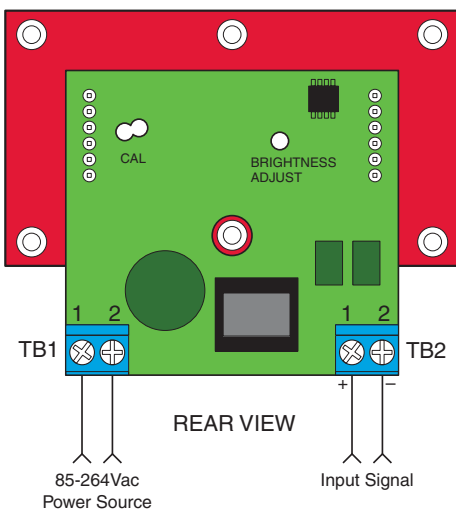

Figure 1. DMU-30ACV wiring diagram
- 3. Power Supply Polarity, Fusing, and Grounding:** The power supply inputs, (TB1 and TB1-2) on DMU-30ACV voltmeters are not polarity sensitive, that is, they have no "AC LO" or "AC HI" designations. These units do not include or require a connection to earth/chassis ground. Refer to Figure 1 for a typical wiring diagram.